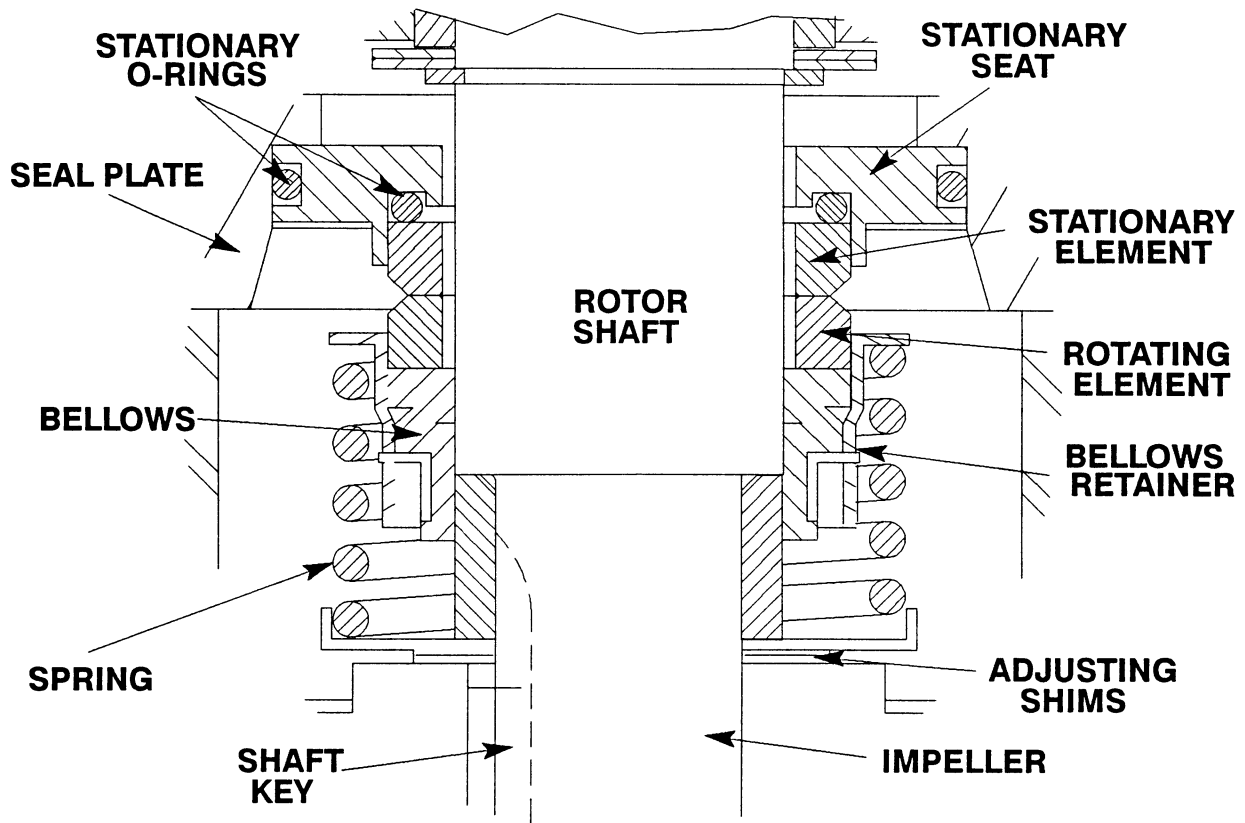

Figure 8. Lower Seal Assemblies 25277-345 and 46512-071
To ease installation of the seal, lubricate the bellows and O-rings with water or a very **small** amount of light lubricating oil, and apply a drop of light lubricating oil on the finished faces. Assemble the seal as follows, (see Figure 8).
Slide the seal spring over the shaft and bellows retainer, and install the spring retainer (26). See Figure 8 for proper order of seal assembly.